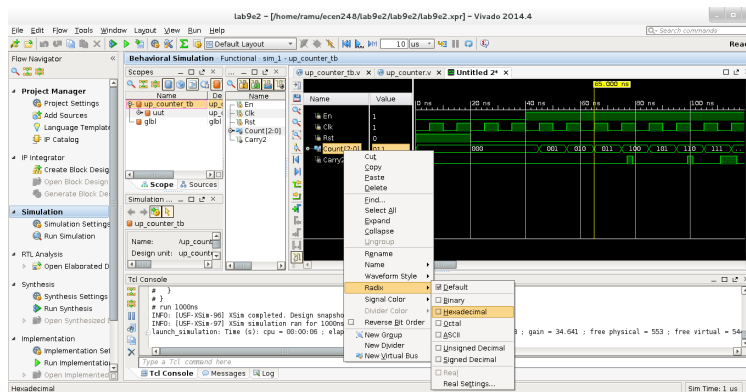

Figure 8: Change Radix to Hexadecimal
- From within the waveform window, right-click on 'Count' and select *Radix* → *Hexadecimal* to change the display format of the 'Count' bus to hexadecimal. See Figure 8.